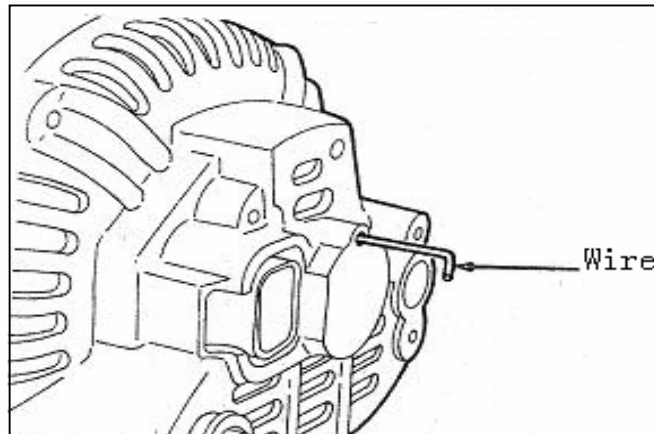

Fig. 9-39
(2) Rotor installation (see Fig.9-39)